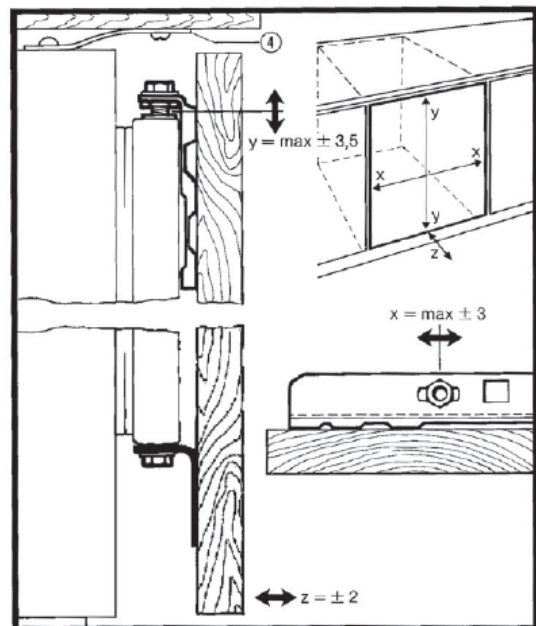

Fig. D2
- Once in position, ensure the décor door panel lies flush with the adjacent cabinetry then fix the appliance to the underside of the worktop by means of the stability bracket (4) (See Fig D2).
- Adjust the height of the adjusting pins Y as required to a maximum of + or – 3.5mm as shown in Figure D2 overleaf.
- Adjust the side measurement X by means of the slots in the mounting bracket as shown in Figure D2 to a maximum of + or – 3mm
- Once final adjustments have been made, take the 2 “L” shaped brackets supplied with the fixing kit and locate loosely in the pre-drilled holes on the underside of the appliance door (as shown in Figure D2).